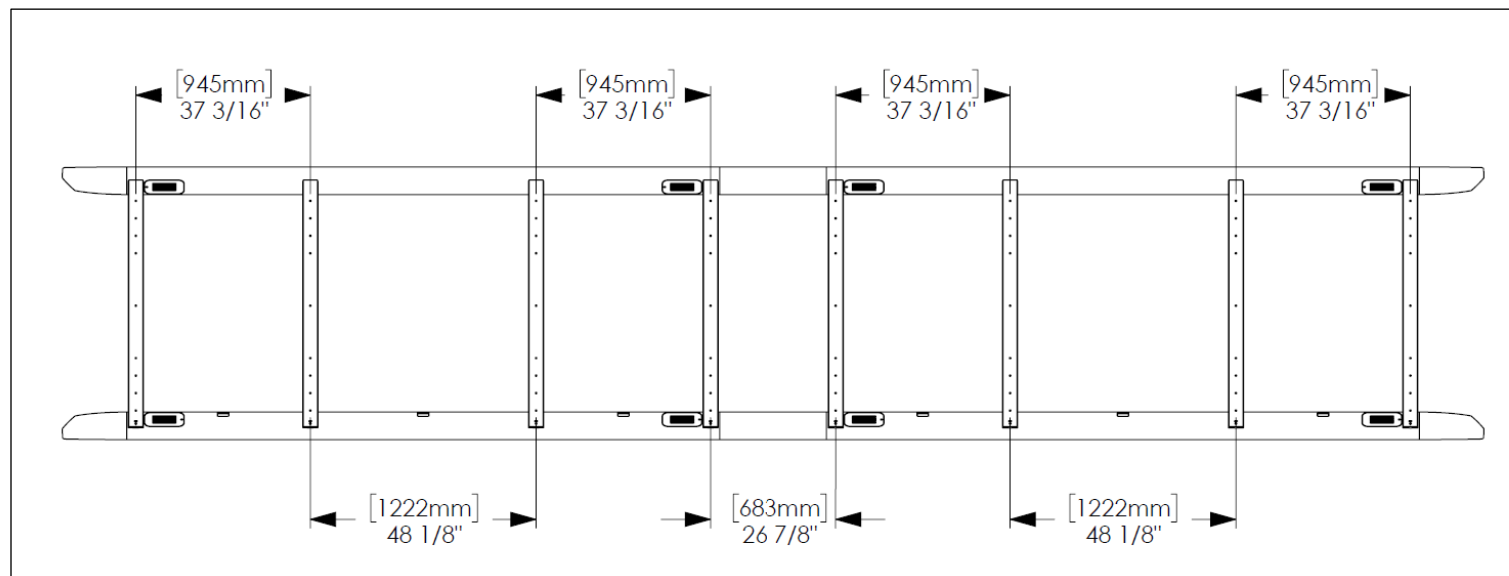

Fig. C4 – rafter spacing
9. Once all rafters are installed and unit is leveled and checked for square, see Fig. C4, fully tighten all hardware.